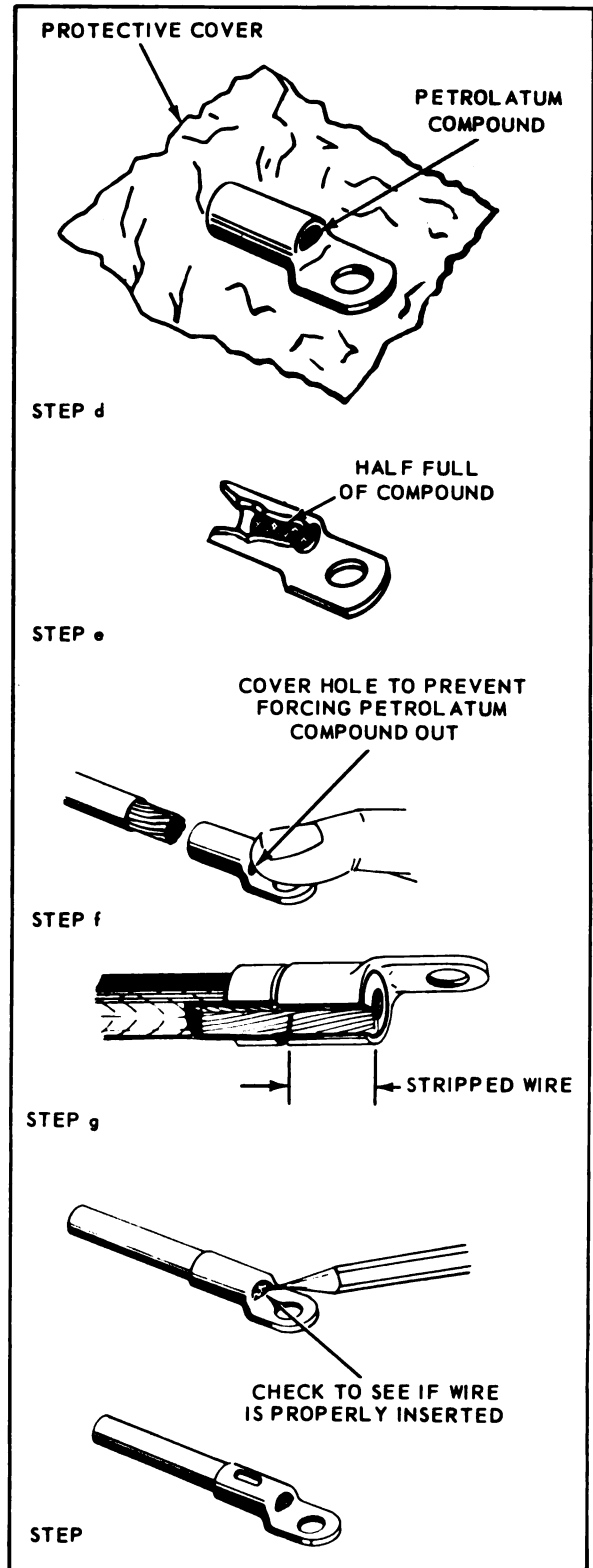

Figure 5-14. Inserting Aluminum Wire into MS25021 Aluminum Terminal Lugs
d. Remove protective cover from terminal lug barrel. See figure 5-14.
e. Remove protective cover from terminal lug barrel. (See figure 5-14).